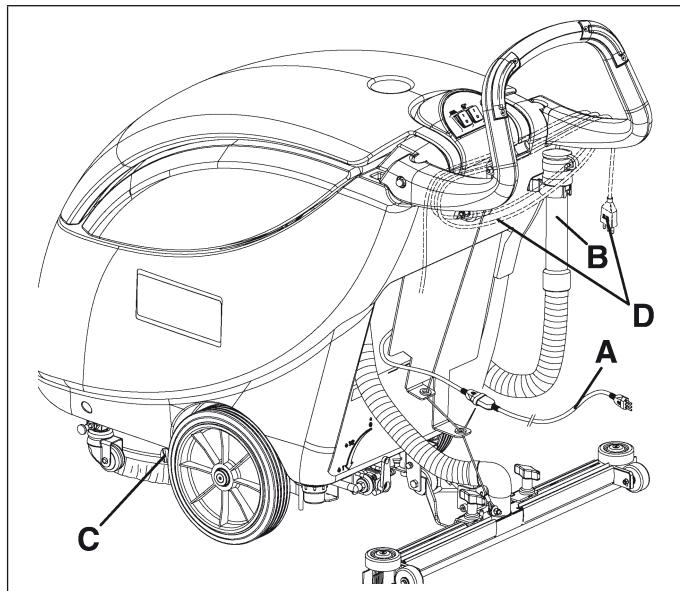

Figure 18
1. Make sure that the power supply cable (A, Fig. 18) is disconnected from the electrical mains. Roll up the power supply cable on the handlebar into position (D).
4. Drain the water from the tanks by means of the drain hose (B, Fig. 18) and valve (C).